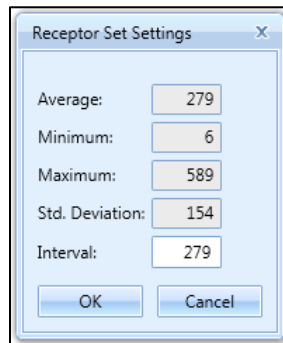

Figure 5-40 Receptor Set Settings Dialog for Number Above Noise Level
- For metric results processed with the Number Above Noise Level option, the *Receptor Set Settings* dialog is displayed (Figure 5-40).